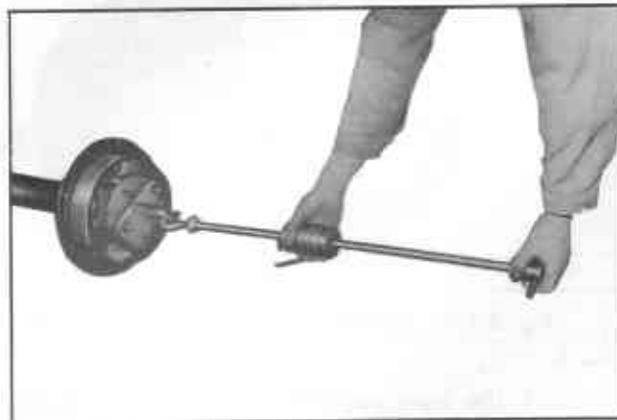

Fig. RA-29 Removing rear axle shaft assembly
4. Remove the four nuts securing the brake back plate to the axle case. Then draw out the axle shaft assembly together with the brake back plate and grease catcher, using sliding hammer (ST46780000) (See Fig. RA-29).